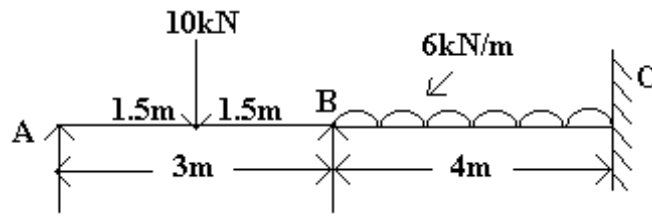

Figure 2:
7. Find the moments at the supports A, B and C of the continuous beam loaded as shown in Figure 2 if the moment of inertia of AB = I , while that of BC = $2 I$. Sketch the B.M.D. Use Force method of analysis. [16]